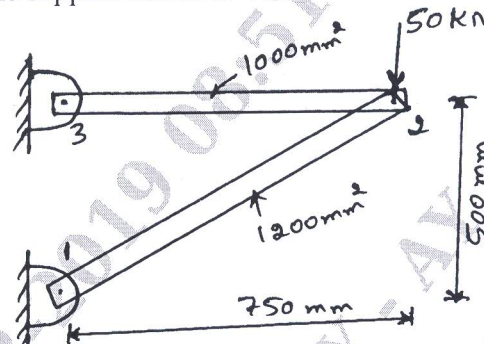

Fig Q6
- 6 For the two bar truss shown in Figure Q6, determine the nodal displacement and the stress in each member. Also find the support reaction. Take  $E = 200\text{GPa}$ .